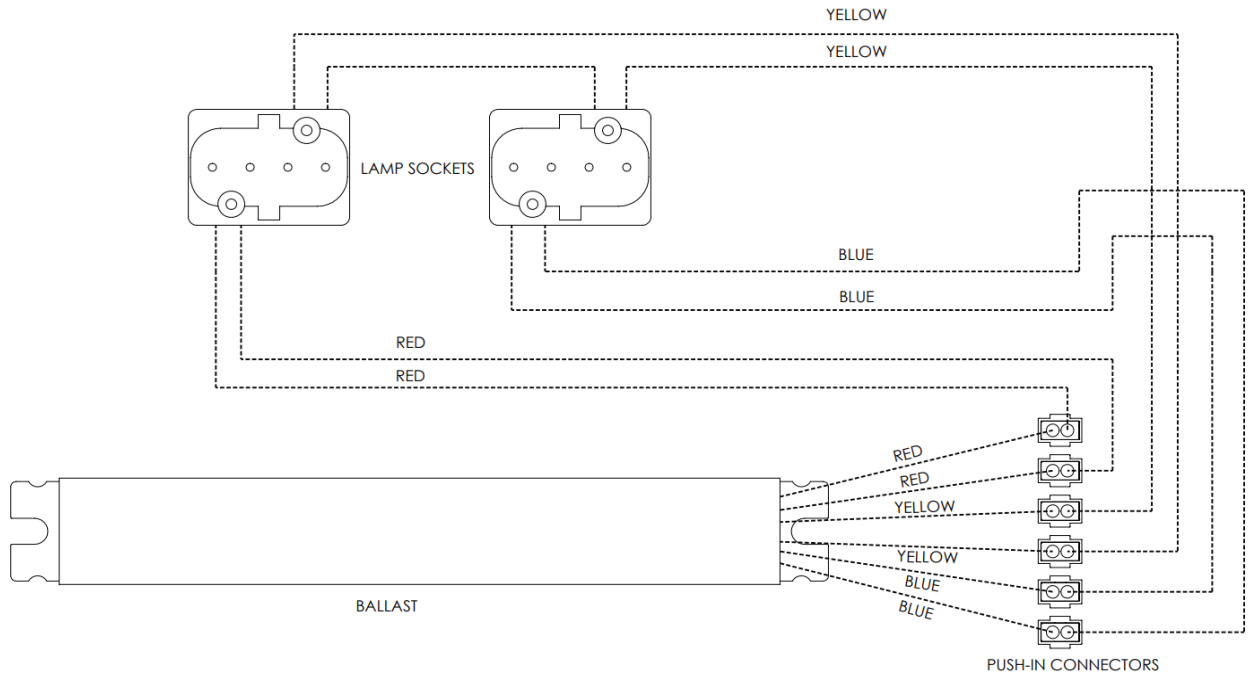

Figure 6. Ballast Wiring Diagram
Step 8. Connect the six (6) wire leads from the lamp sockets to the six (6) push-in style connectors pre-assembled with the new ballast. Push in one (1) red wire into each of the connectors attached to a red ballast wire. Push in one (1) blue wire into each of the connectors attached to a blue ballast wire. Push in one (1) yellow wire into each of the connectors attached to a yellow ballast wire. Refer to Figure 6.